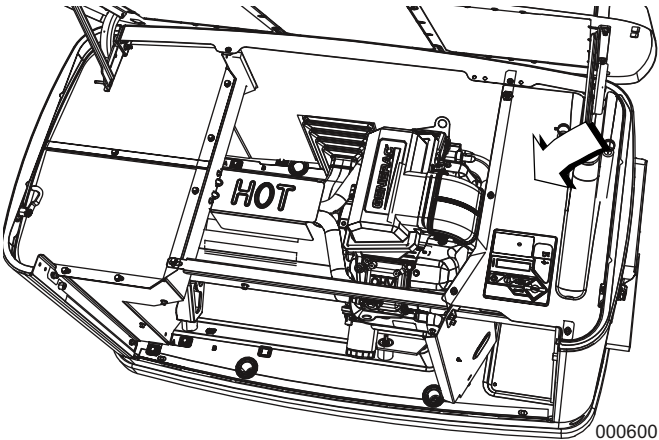

Figure 2-4. Inspect for Damage
7. Once the lid is open, remove the front access panel by lifting it up and out. Also remove the black panel, indicated by the arrow, over top of the customer connection area. See Figure 2-4